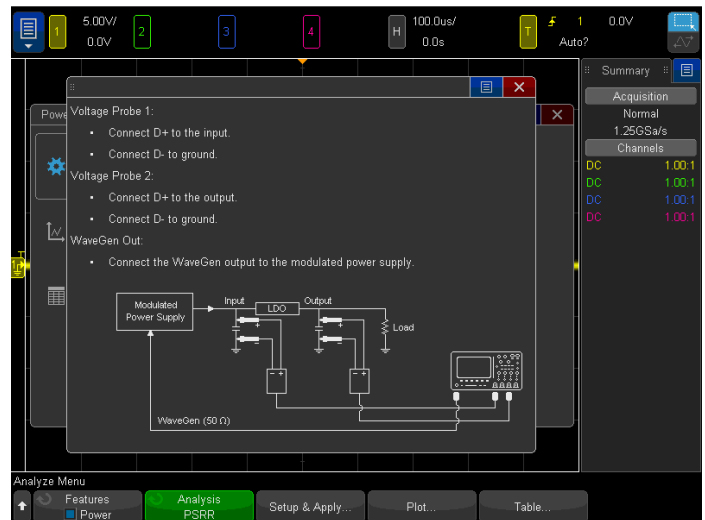

Figure 36. PSRR connections diagram in the Signals menu.
4. To view the connections diagram shown in Figure 36, touch the blue "?" symbol; then make the following connections: